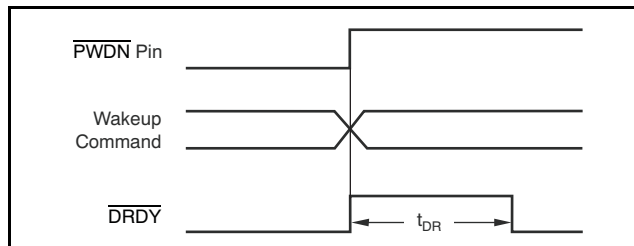

Figure 25.  $\overline{\text{PWN}}$  Pin and Wake-Up Command Timing
In power-down, note that the device outputs remain active and the device inputs must not float. When the Standby command is sent, the SPI port and the configuration registers are kept active. Figure 25 and Table 12 show the timing.
(1) See Figure 25 and Table 12 for time to new data.